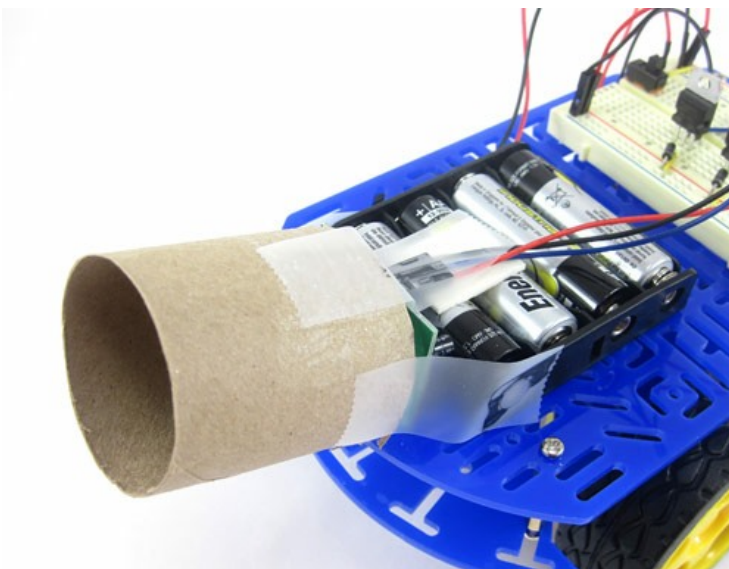

Figure 8. Partially covering the sensor with a shortened paper towel tube will help narrow its field of view.
- You might discover that it is actually too *easy* to activate the robot, because the PIR sensor has such a wide field of view. For example, if you try to hide the robot under a desk or table, it might jump out too early when someone walks by. This is where the engineering design process really comes into play. Can you figure out how to modify the sensor's field of view? For example, you could partially cover the sensor with a shortened paper towel tube, like in Figure 8. You can also adjust which way the PIR sensor is facing (forward, down, up, or to the side).